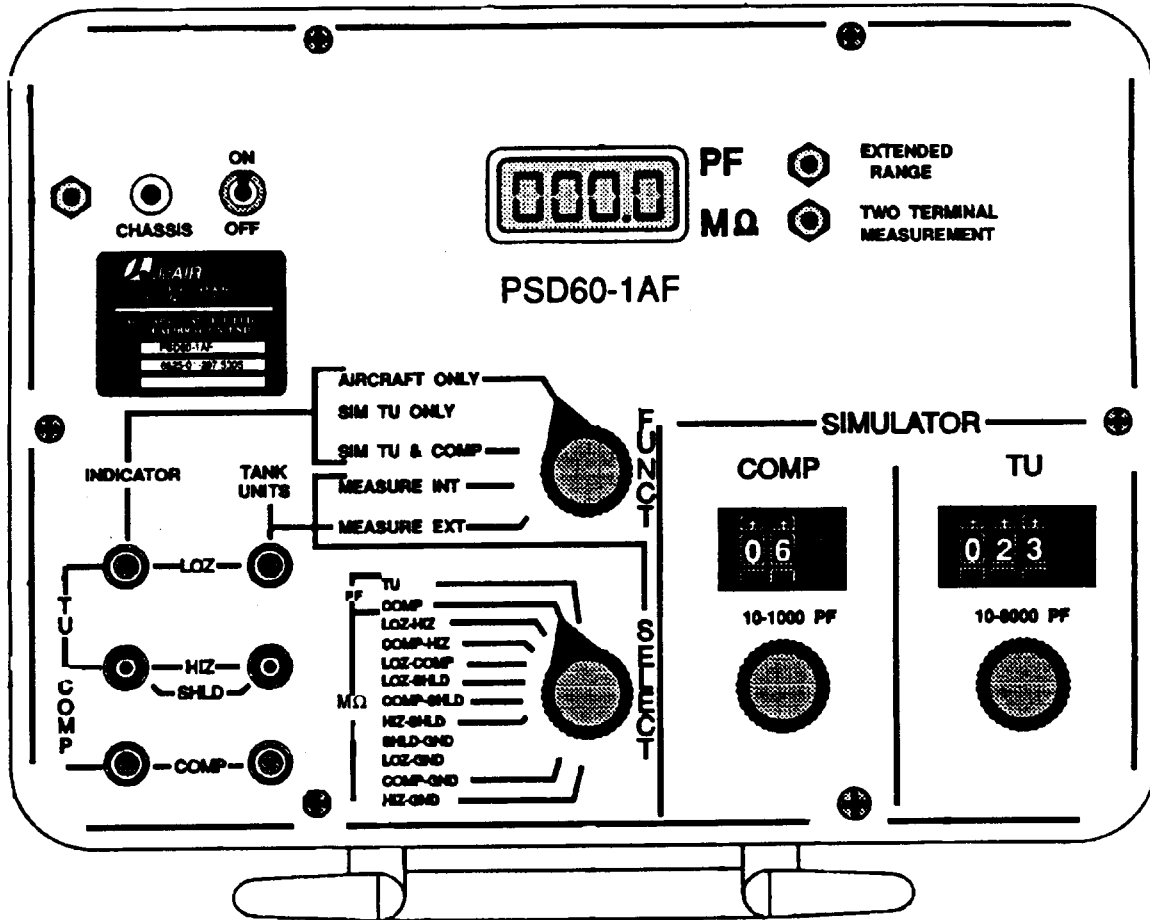

Figure 1. Front panel.
7. **Equipment Setup.** Set **ON-OFF** power switch to **ON** (fig. 1) position and allow 5 minutes for TI to warm up and stabilize.